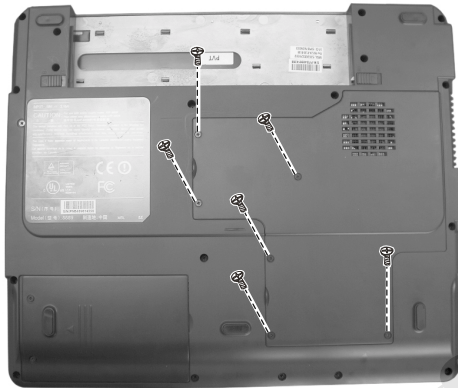

Figure 2-6 Remove the six screws
2. Remove the six screws fastening the CPU cover. (Figure 2-6)